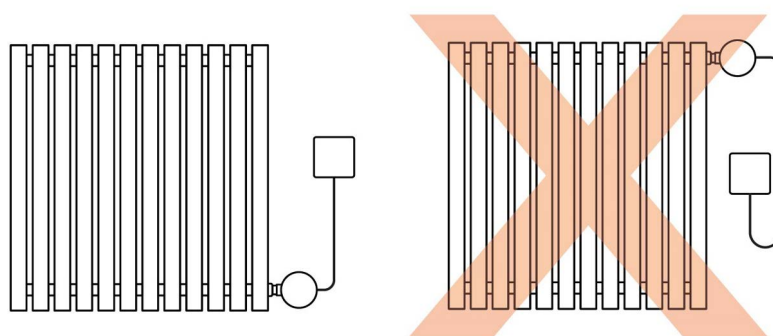

Figure 2 | Correct and incorrect element positioning
- Do not hang the radiator with the heating element at the top (**Figure 2**).
- The power lead must be connected to a socket which must be at least 25cm from the floor. Do not connect the element to the power supply until it is secured within the radiator and correctly orientated, as demonstrated in **Figure 2**.